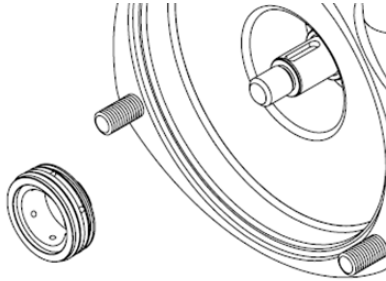

Figure 8
1. Use a food grade lubricant to lubricate all o-rings. It is important that the stationary and rotating seal o-rings are lubricated to ease assembly. Slide the stationary seal over the shaft and into the casing, Figure 8.